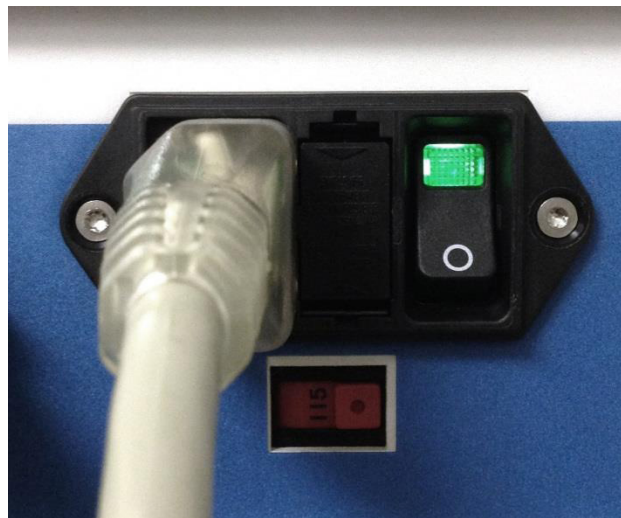

Figure 10: Turn-On AtriCure cryoICE BOX with Switch
- Turn-On the cryoICE BOX unit with the switch located on the back as seen in Figure 10. The power switch is used to connect mains power (Turn-On) or disconnect mains power (Turn-Off) to the cryoICE BOX unit.